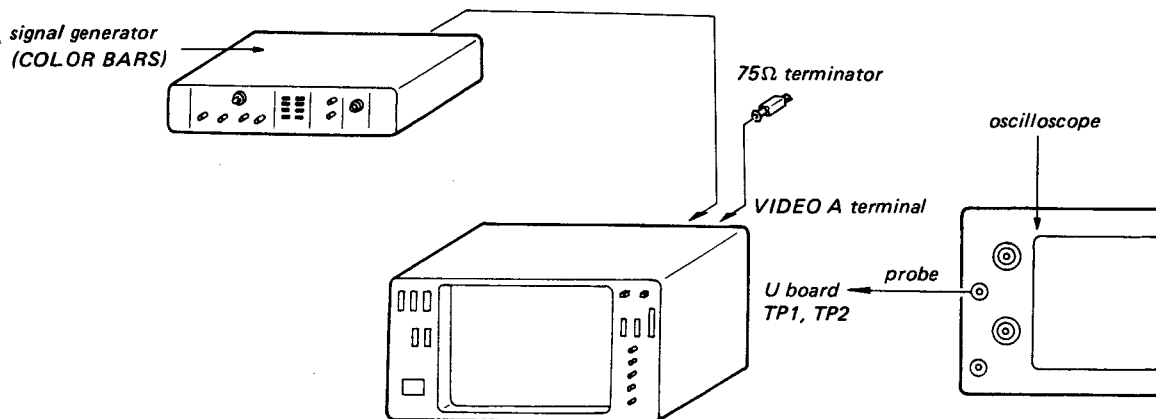

Fig. 5-146
1. Complete the connections as shown in Fig. 5-146.